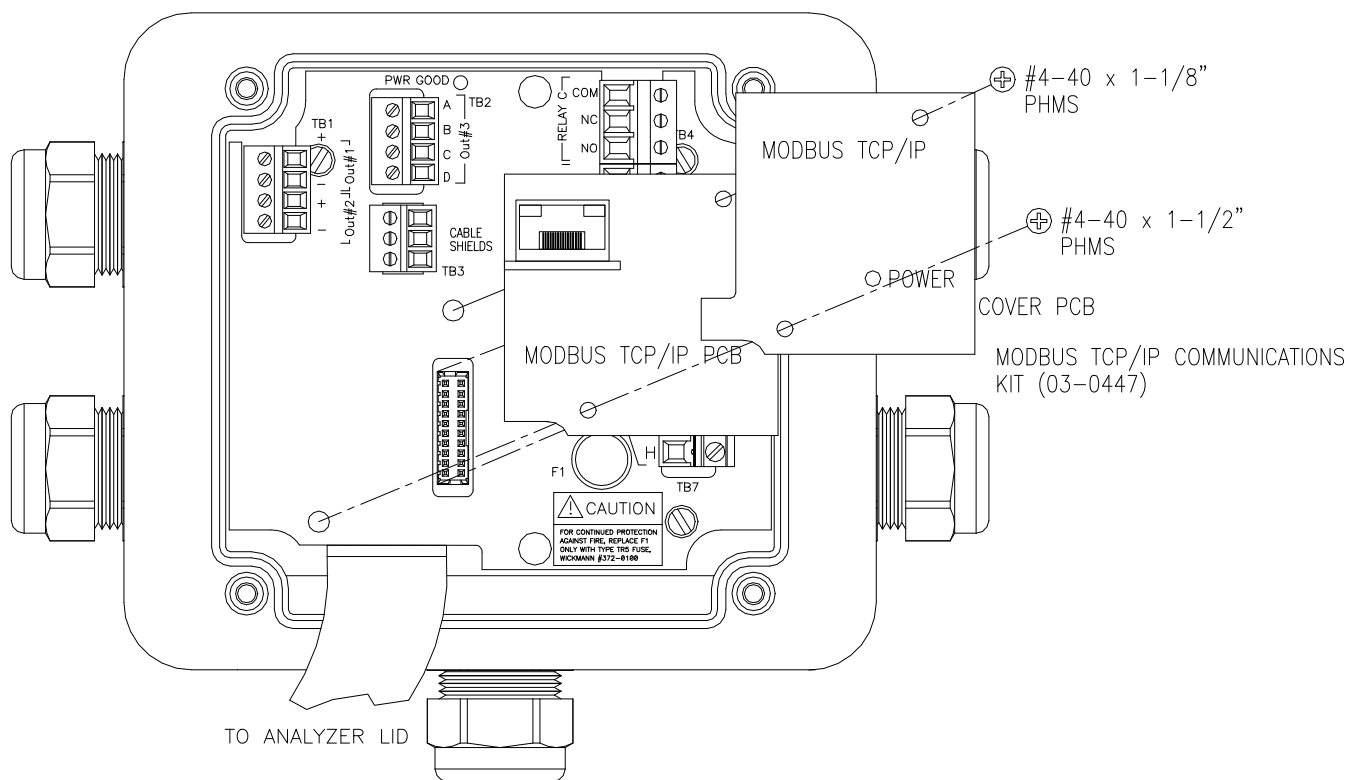

Figure 1 – Modbus TCP/IP Card Installation
4. Align the cover board holes with the holes in the circuit board and use the screws supplied to secure the assembly. Refer to Figure 1 below for the proper assembly.